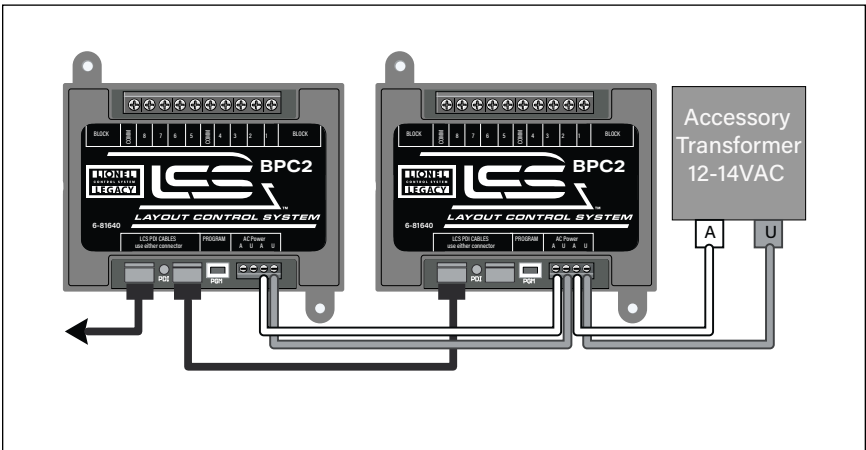

Figure 6. Connecting two BPC2 modules with LCS PDI cables and parallel external relay power.
Your BPC2 requires an external power source to operate its 8 internal relays. This must be supplied from a separate accessory transformer. Connect an accessory transformer with a 12-14 VAC output to the BPC2's front screw terminal connections marked "A" and "U" as shown in Figure 6 below. If your installation includes more than one BPC2, they can share the same accessory transformer as long as it combined the current draw of the relays and does not exceed the capacity of the accessory transformer (See Specifications, Electrical at the end of this document).
3. If your layout includes additional BPC2 or ASC2 devices, you can use the spare A and U terminals on the first unit to jumper power to your next BPC2 device as shown in Figure 6.